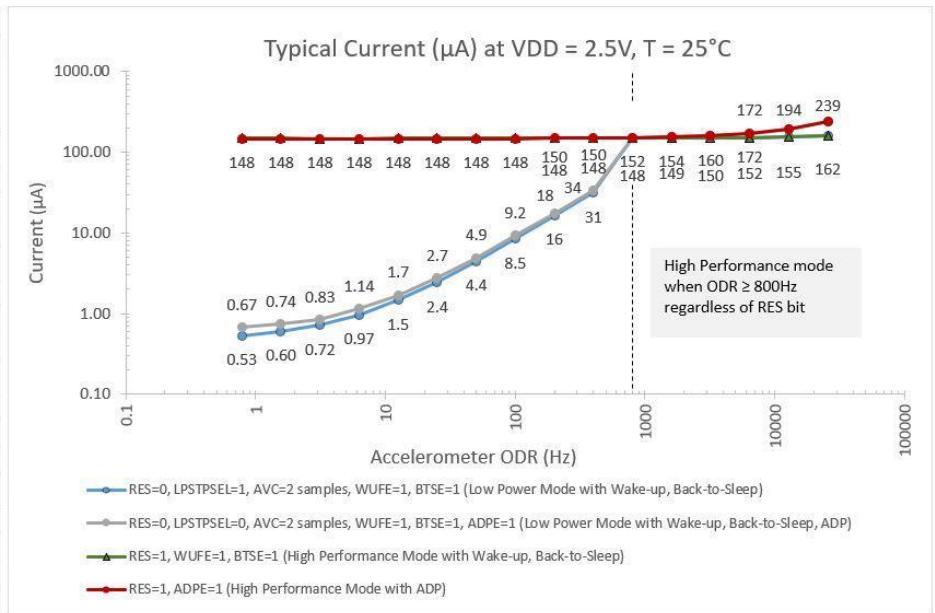

Figure 2: Current as a function of Output Data Rate (ODR) and Power Mode Settings
- Current varies with Output Data Rate (ODR) as shown in Figure 2, types and number of enabled digital engines, the average filter control settings, and VDD. Measured with OWUF<2:0> = 0, OSA<3:0> = 0, AVG<2:0> = 1, LPSTPSEL = 1.